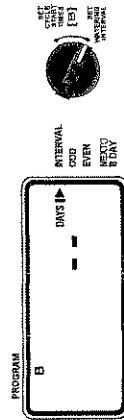

FIGURE 7: Program B Setup for Fixed Schedule
- Turn the rotary selector to **SET WATERING INTERVAL**. The cursor will blink to the right of the word **INTERVAL** [Note Figure 7.]